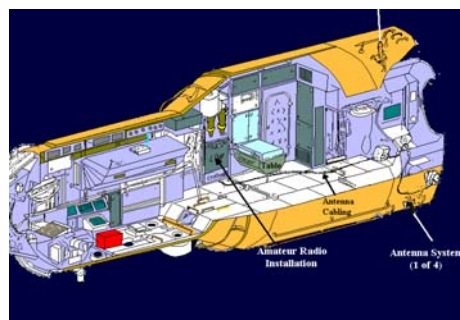

Figure 2
The ARISS team's vision of supporting several different international users at the same time on separate frequency bands and different modes (voice, data, television, etc.) requires several different antenna systems. The ARISS-Russia team, led by Sergej Samburov, RV3DR, provided this foundation through the installation of four ham radio antenna feedthrough ports on the Russian Service Module. With these antennas in place, the primary location of the ham station will reside inside the Russian Service Module (SM) named Zvezda. The ham station will be installed near the SM dining table. See Figure 2. Simultaneous multi-band operations can be conducted with these two (SM and FGB) station locations.